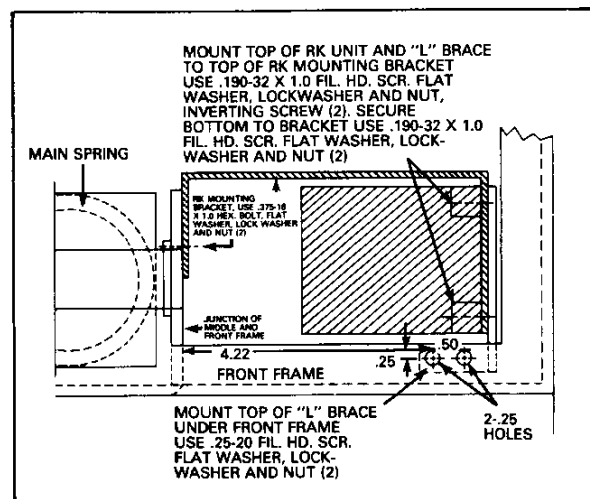

Fig. 5 Right Front Top View
5. Review the photographs to acquaint yourself with the items and location, especially the right and left side view of the breaker Figs. 5, 6, 8 and 9.
3. Viewing the breaker from the top, locate a starting point at the junction of the top of the front frame and the middle side frame. From this point measure 4.22 inches along the front frame and .25 inches in to locate the first hole (See Fig. 5), measure another .50 inches over and .25 inches in to locate the second hole. Drill two (2) .25 holes.
5. Mount the top of the "L" brace to the front frame using .190-32 x .75 fil. hd. screw, flat washer, lockwasher and nut, do not secure tightly, let the "L" brace be loose (See Figs. 5 and 6).